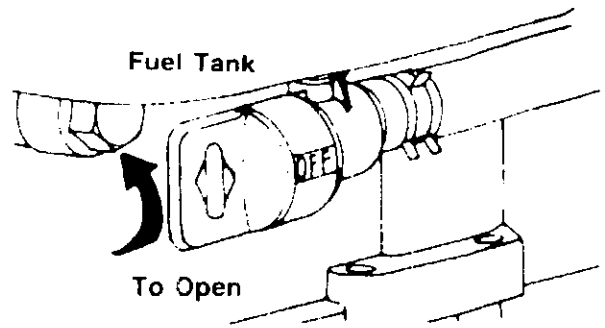

FIGURE 17.
3. The fuel shut-off valve is located beneath the fuel tank. The fuel shut-off valve should be in the open position. See figure 17. Open fuel shut-off valve if it is closed.